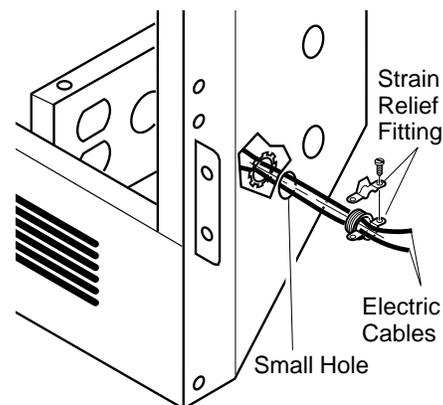

Figure 20 - Installing Strain Relief Fitting into Electrical Access Hole
- Clamp electrical cable hard-wiring into firebox through smallest hole using strain relief fitting provided (see Figure 20).